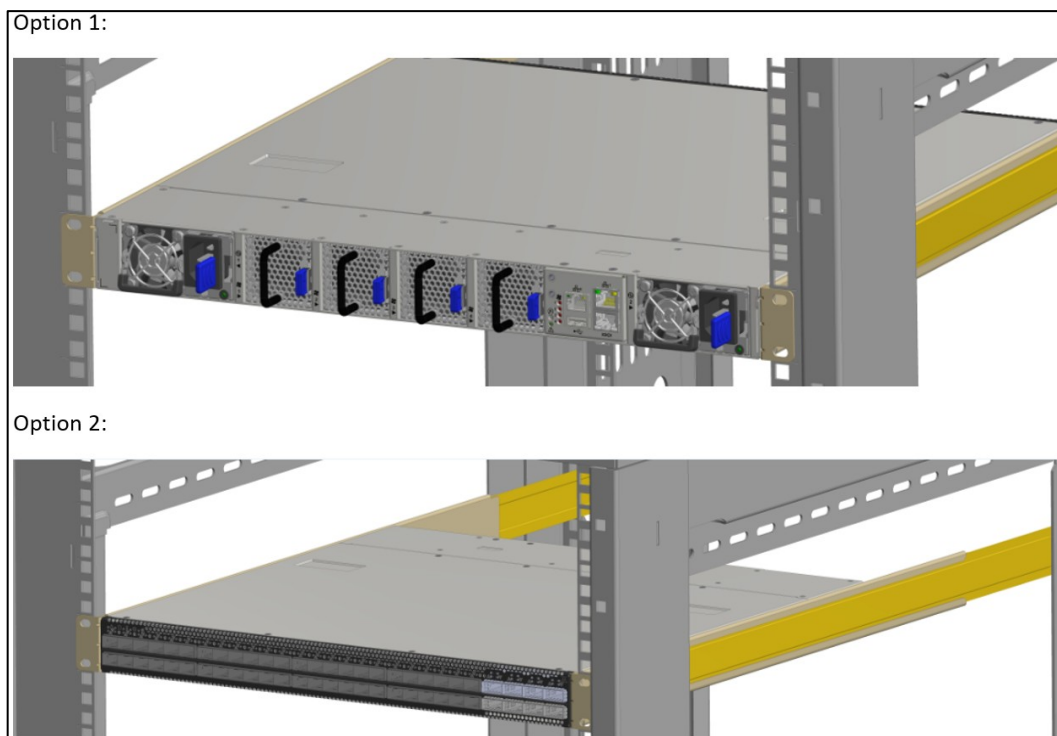

Figure 24: Installation Options
Step 4. Press on the locking spring (appears in red in Figure 24) on both sides simultaneously, and then continue pulling the unit towards you until it is fully removed.